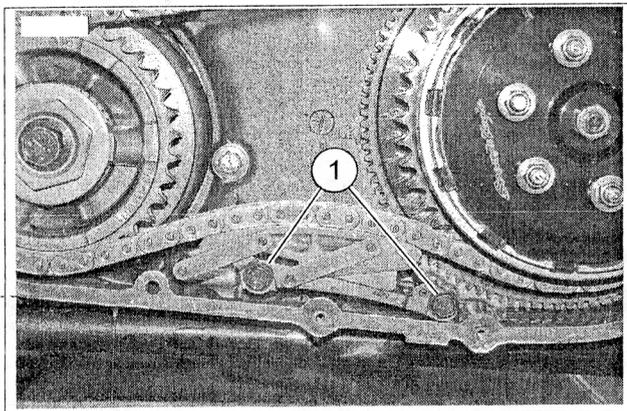

Figure 1. Remove Two Screws
4. See Figure 1. Remove two screws with the OE automatic tensioner from the primary case and remove the tensioner. Save the two screws.